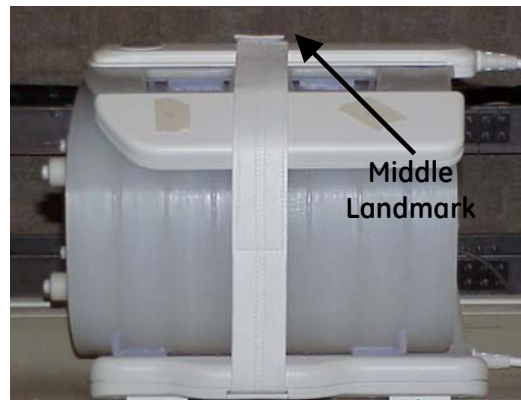

Figure 7: Landmarking the coil.
4. Landmark the coil at the indicated line and advance to scan (see *Figure 7*).